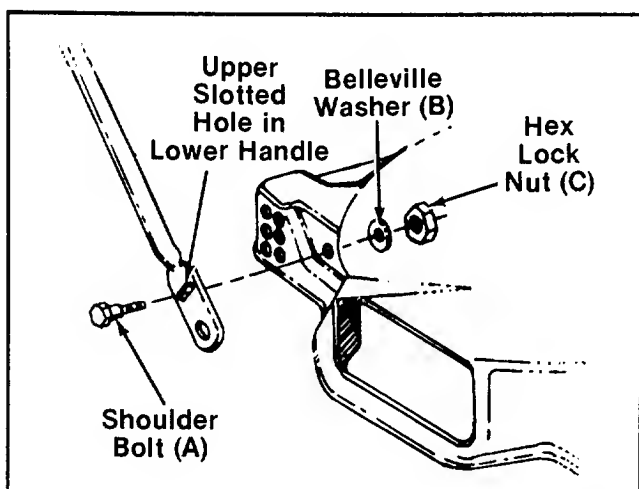

FIGURE 2.
Line up the upper slotted hole in lower handle with the mounting hole on deck. Place shoulder bolt (A) through lower handle and deck. See figure 2. Place belleville washer (B) on the shoulder bolt, with the cupped side of the washer against the deck. Secure with hex lock nut (C).